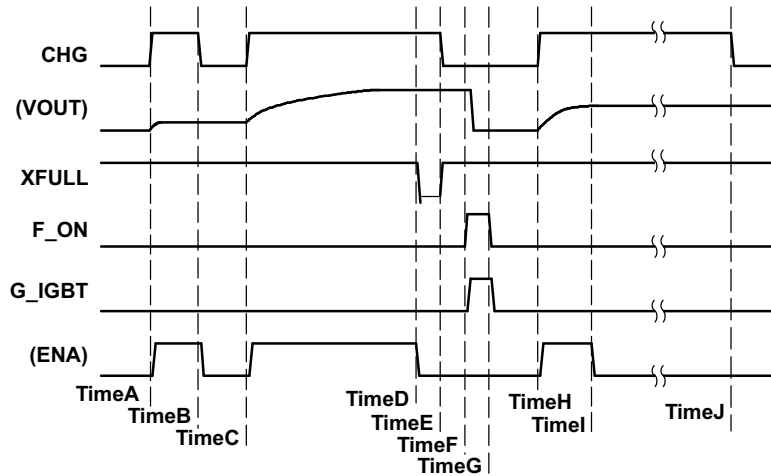

Figure 4. Whole Operation Sequence Chart
The only way to start charging is to input CHG↑ (see time A/C/H in Figure 4). Each time CHG↑ is applied, the TPS65560 starts charging.
1. Forced stop by inputting CHG = L from the controller (see timeB in Figure 4).
2. Automatic stop by detecting a full charge. VOUT reaches the target value (see TimeD in Figure 4).
3. Protected stop by detecting an over current function (OV_{DS}) trigger at SW pin (see TimeI in Figure 4).
The device starts charging at timeH, and OV_{DS} protection occurs at TimeI (see Figure 4). At TimeI, XFULL stays H. At TimeJ, the controller detects OV_{DS} protection through the expiration of a timer ends and then sets CHG to low to terminate the operation.
The TPS65560 provides an overvoltage monitor function of the SW pin. The TPS65560 is latched off if the voltage on the SW pin is above OV_{DS} during the switch ON time (see Figure 4 and its descriptions).